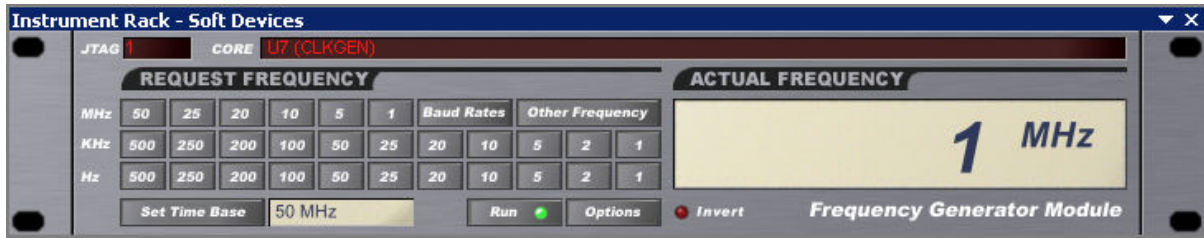

Figure 55. Frequency generator Panel
5. The frequency generator should be set to 1MHz as indicated in Figure 55.